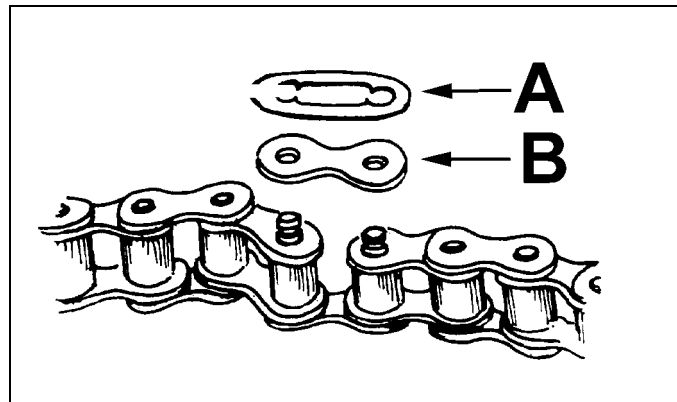

Figure 18
2. Remove the master chain link (*Figure 18*). First remove the lock clip (A) with a flat-head screwdriver and pliers. You'll need to lift one side and rotate the clip to get it off the master link. Next, remove the side plate (B). Then remove the master chain link.